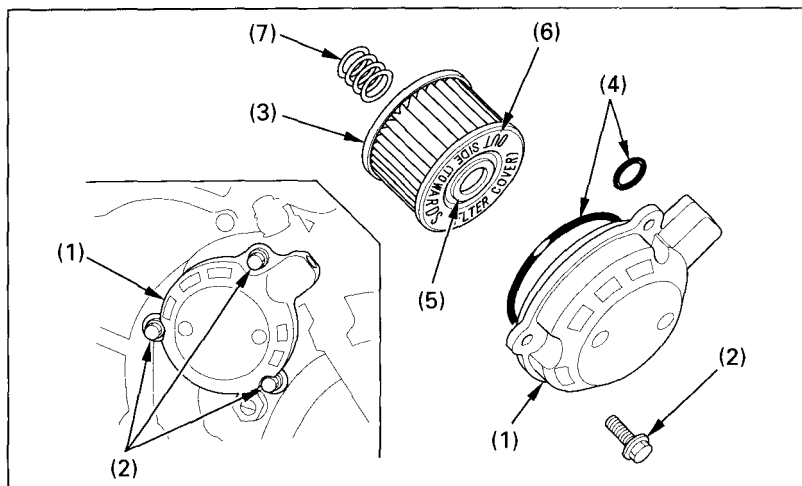

Fig. 4-14 (1) Oil filter cover
(1) Oil drain plug
3. Remove the oil filter cover (1) (Fig. 4-14) by removing the bolts (2). Let the remaining oil drain out. Discard the oil filter (3).
4. Check that the oil filter cover O-rings (4) are in good condition and then install a new oil filter. Use only the Honda genuine oil filter or a filter of equivalent quality specified for your model. Using the wrong Honda filter or a non-Honda filter which is not of equivalent quality may cause engine damage.
5. Install the filter with the rubber seal (5) facing out, away from the engine. You will see the "OUTSIDE (TOWARDS FILTER COVER)" mark (6) on the filter body, near the seal.